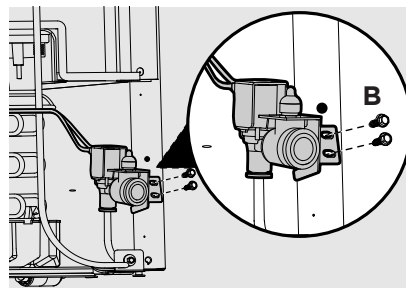

Figure 20
19. The water valve location has pre-made holes on the right rear of the unit. The water line should be oriented downward when the valve is installed. Install the water valve using a 1/4" hex head driver or drill, install the 2 hex head screws (B). Tighten screws until they are snug and then tighten an additional 1/4" turn. See Figure 20.